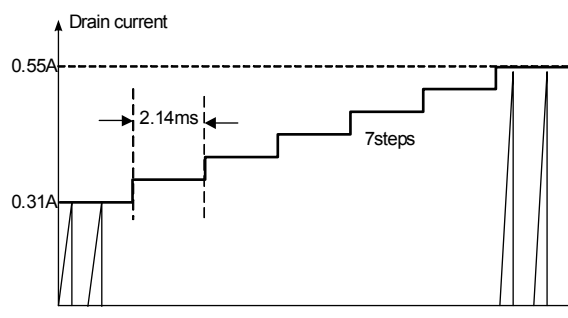

Figure 19. Internal Soft-Start
5. Soft-Start: The FPS has an internal soft-start circuit that slowly increases the feedback voltage, together with the SenseFET current, right after it starts. The typical soft-start time is 15ms, as shown in Figure 19, where progressive increment of the SenseFET current is allowed during the startup phase. Soft-start circuit progressively increases current limits to establish proper working conditions for transformers, inductors, capacitors, and switching devices. It also helps to prevent transformer saturation and reduces the stress on the secondary diode.